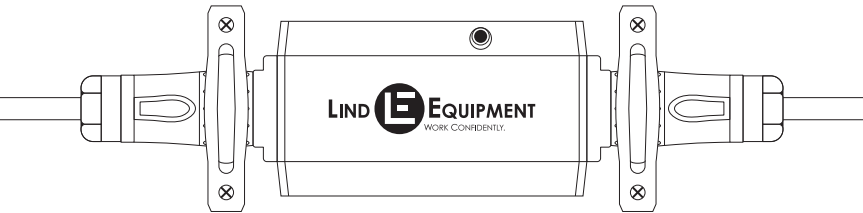

FIGURE 6
- + Use the screws of your choice based on the surface to which you wish to mount the unit (FIGURE 6).